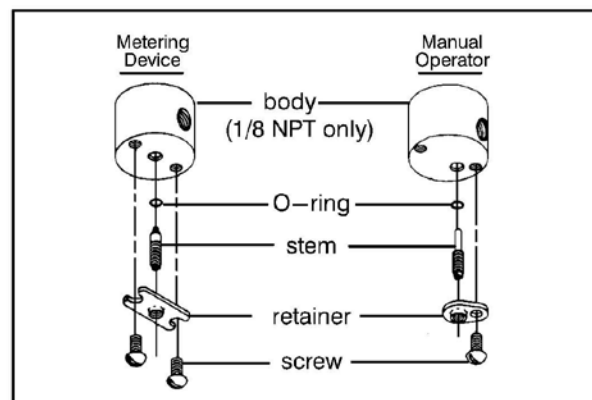

Figure 1. Metering and manual operator constructions.
3. Unscrew solenoid base sub-assembly or valve bonnet with special wrench adapter supplied in ASCO Rebuild Kit. For wrench adapter only, order No. K218948. Remove core assembly, core spring, and solenoid base gasket from valve body. For normal maintenance on Series 8263 valves it is not necessary to remove valve seat. See Figure 1 for metering or manual operator constructions.